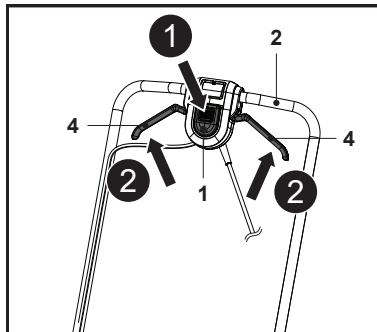

Fig. 15
1. Stand behind the grip handle (2).
2. While holding the safety switch button (1) pressed, pull the start levers (4) towards the grip handle (2) and hold it in position (Fig. 15, steps 1, 2).
3. After the lawn mower starts, release the safety switch button (1).